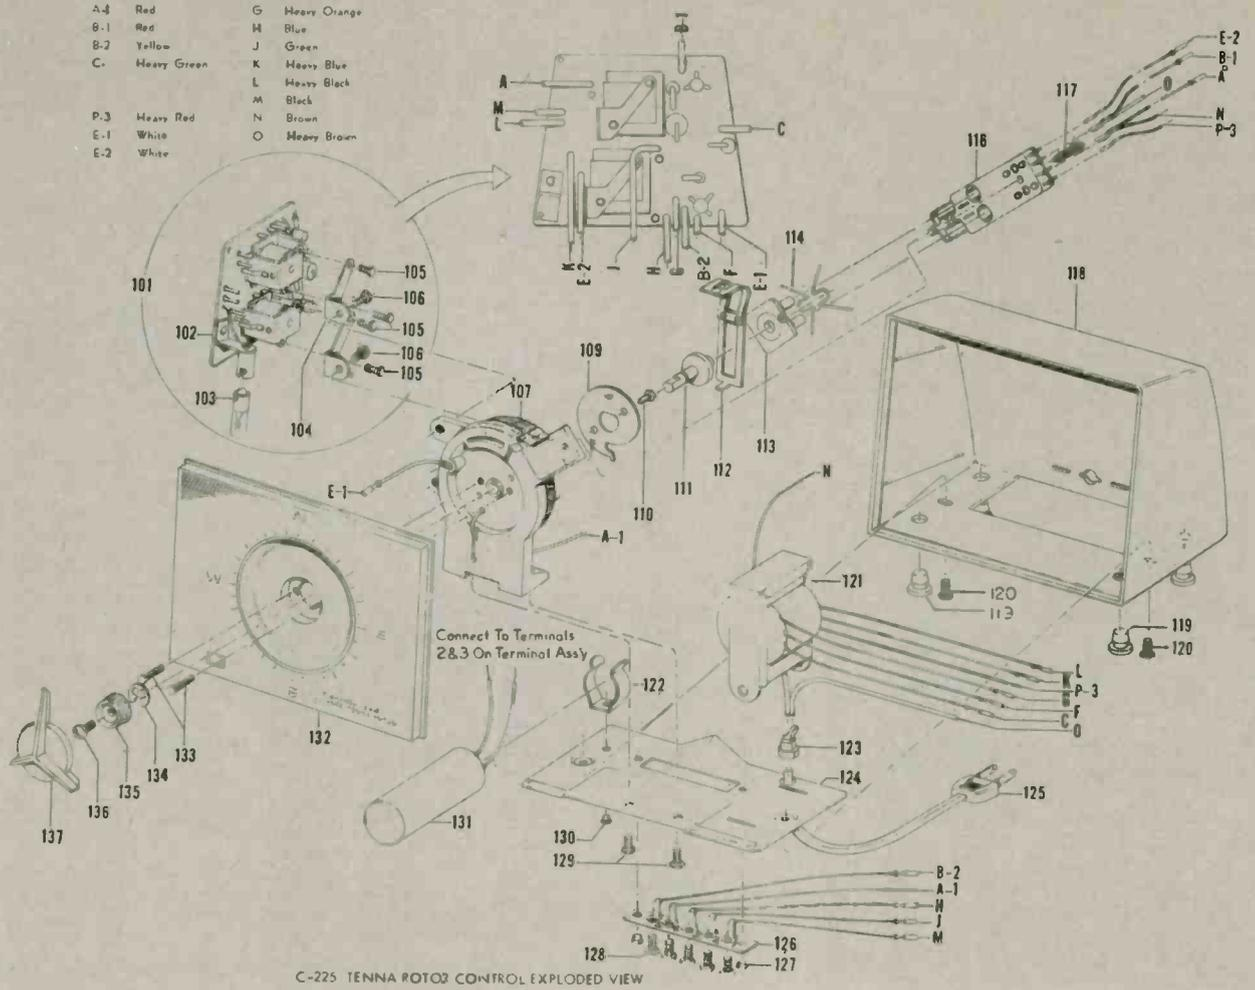

Fig. 3—An exploded view of the C-225 control console.
Fig. 3—Diagram of the video output amplifiers consisting of three transistors which perform the function of amplifying both monochrome video (Y) signal and color signals as well as matrixing.
The video output amplifiers employed in this chassis consist of three transistors, Q205, Q206 and Q207 which perform the function of amplifying both the monochrome video (Y) signal and color signals, as well as matrixing as shown in the diagram Fig. 3.